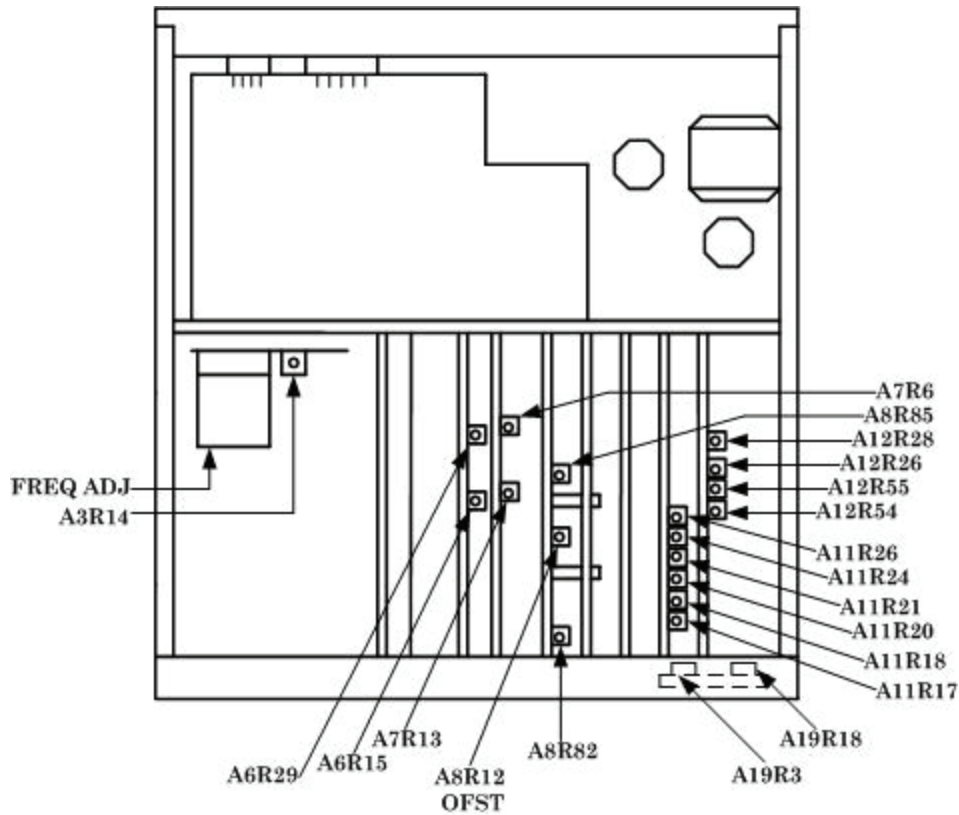

Figure 1. Test instrument - top view.
(1) Connect time/frequency workstation **OUTPUT 1 MHz** to frequency difference meter **REF INPUT**.
(2) Connect TI rear panel **FREQ STD OUTPUT (10MHz OUT** for AN/USM-459 and 5328AF096) to frequency difference meter **SIG INPUT** using a 50 Ω feedthrough termination.
(3) Adjust **FREQ ADJ** (fig. 1) and **A3R14** (fig. 1) for AN/USM-459 and 5328AF096 for minimum difference indication on frequency difference meter. Record frequency difference meter indication.
(4) After 24 hour stabilization, frequency difference meter indication will be <5 parts in 10^{10} of indication recorded in (3) above. Record frequency difference meter indication.
- (1) Connect signal generator **OUTPUT RF** to **TI INPUT A** using 50 Ω feedthrough termination (omit termination for option H60).
- (2) Set signal generator for a 40 MHz, 25 mV output.
- (3) Adjust A19R3 (fig. 1) (A12R26 (fig. 1) for option 041) for a stable TI indication of approximately 40 MHz (R).
- (4) Slowly decrease signal generator output and repeat (3) above.
- (5) Connect TI **CHANNEL A MARKER OUTPUT** to oscilloscope **Vertical 1** input using a 50 Ω feedthrough termination.
(6) Set oscilloscope channel 1 for DC input coupling, 1 MΩ input, 500mV/div amplitude and 10 μs/div sweep.
(7) Set oscilloscope triggering for positive slope, auto level, channel 1 source and DC coupling.
(8) Connect function generator **Function Outputs Unbalanced** to TI INPUT A using a 50 Ω feedthrough termination.
(9) Set function generator for a sine wave, 10 kHz, 42 mVp-p, 50 Ω output.
(10) Adjust oscilloscope controls as necessary to view waveform. Adjust A12R26 (fig. 1) for a symmetrical square wave on oscilloscope (R).
(11) Adjust A12R55 (fig. 1) for a stable TI indication of approximately 10 kHz (R).